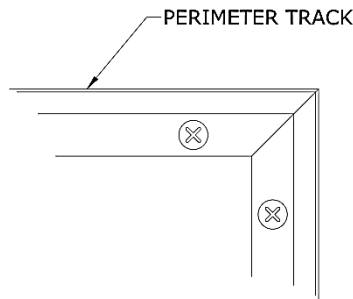

Fig. 4.1
- A. Cut miters for track intersections and corners. Start at an outside corner of the Perimeter Track and work your way around (fig. 4.1). Due to tolerances in the track extruding process, shimming or sanding may be necessary for proper alignment.